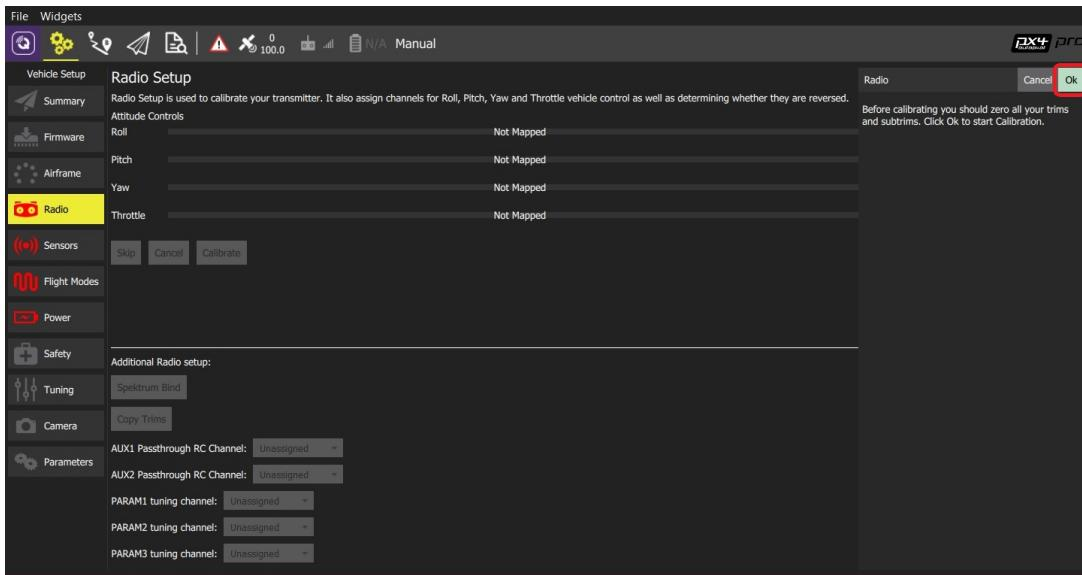

Figure 3.16: Radio setup - before starting
4. Press **OK** to start the calibration. See figure 3.16.